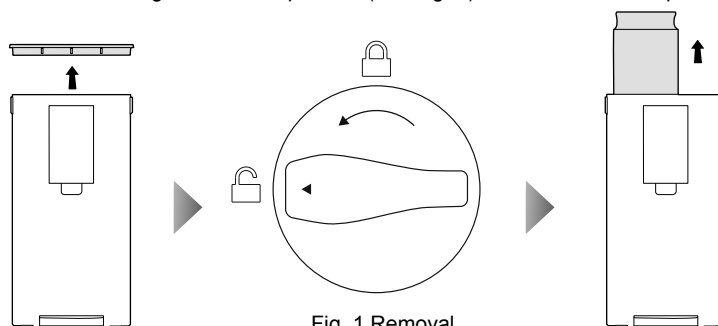

Fig. 1 Removal
- 1 To remove, take off the top cover of the main body, rotate the replacement cartridge counterclockwise until the triangle mark on the replacement cartridge aligns with the unlock icon at the replacement cartridge installation position (see Fig. 1), then remove the replacement cartridge.